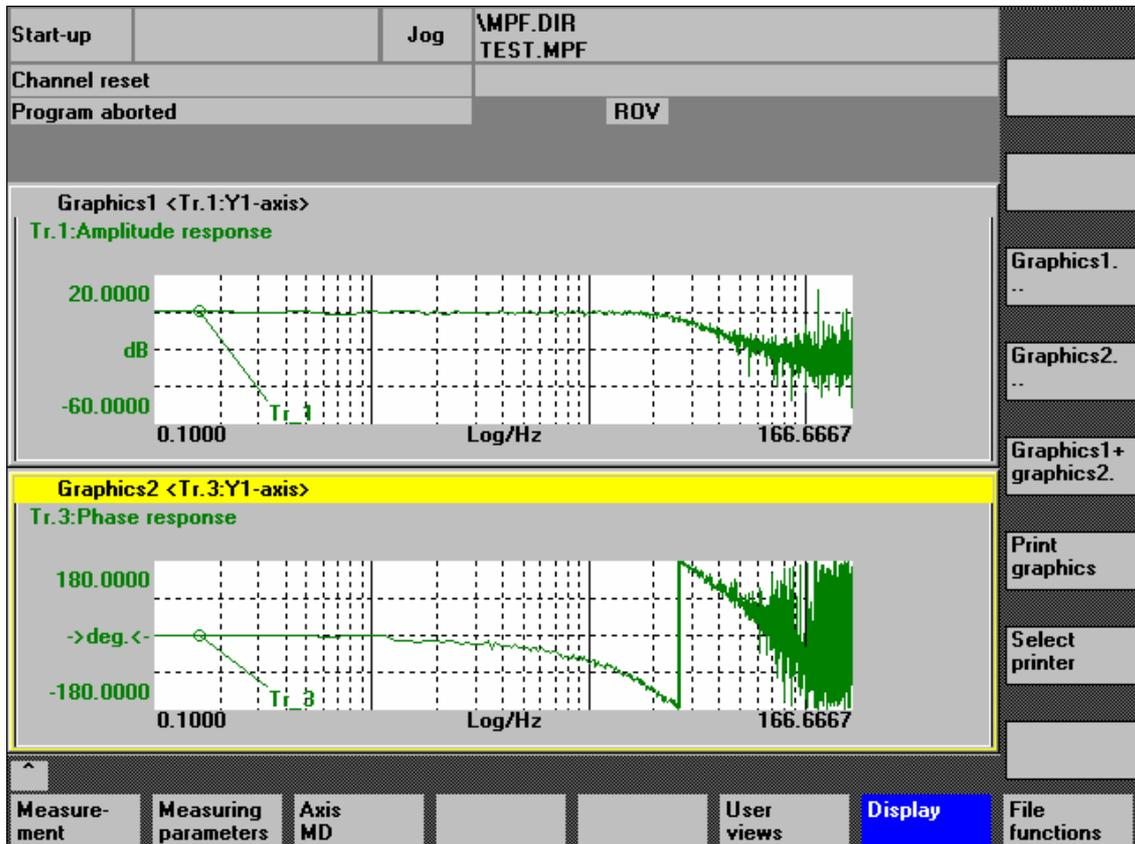

Fig. 13-14 Graphics soft keys
**Soft key:** Use the soft key **Print graphics** Fig. 13-14, Page 13-448 to output the graphics to the set medium: